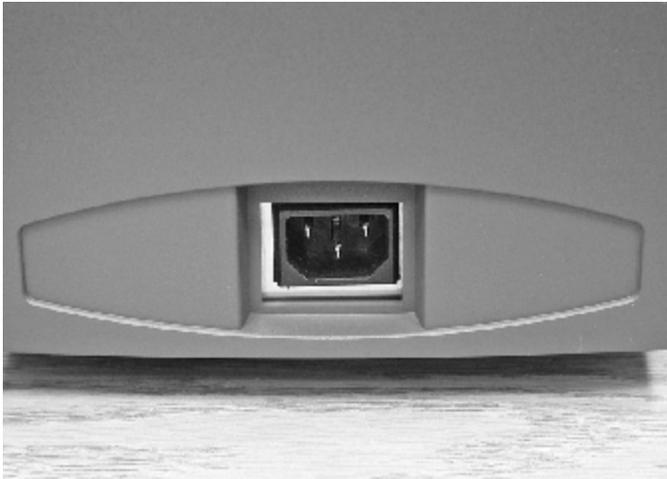

Figure 25 AC Cord Receptacle
21. Install and connect the AC cord. See Figure 25.